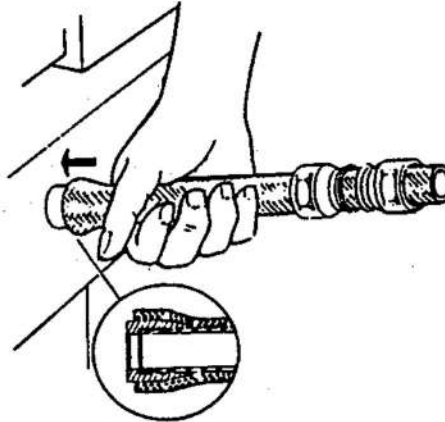

Fig. 4 Bottoming the sleeve
5.4 Install the sleeve by carefully inserting the sleeve between the braid and the outer part of the tube, taking care that no wires are trapped between the sleeve and the tube. Complete positioning by pushing the end of the sleeve against a flat surface until the tube bottoms against the shoulder in the sleeve as shown in Fig. 4. Visually inspect the sleeve to ensure the tube end is bottomed against the sleeve shoulder and that no wires are trapped in the sleeve.